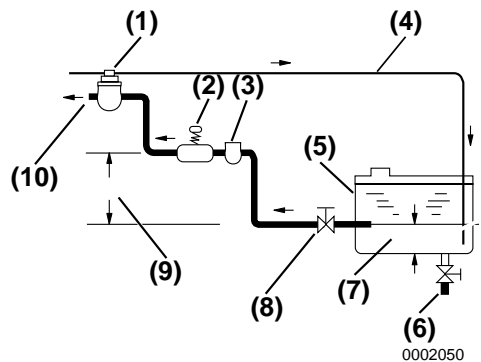

Figure 2
(Figure 2, (5)) at the bottom of the fuel tank to remove water and contaminants.
(Figure 2, (2)) and a fuel filter between the fuel tank and the fuel injection pump.